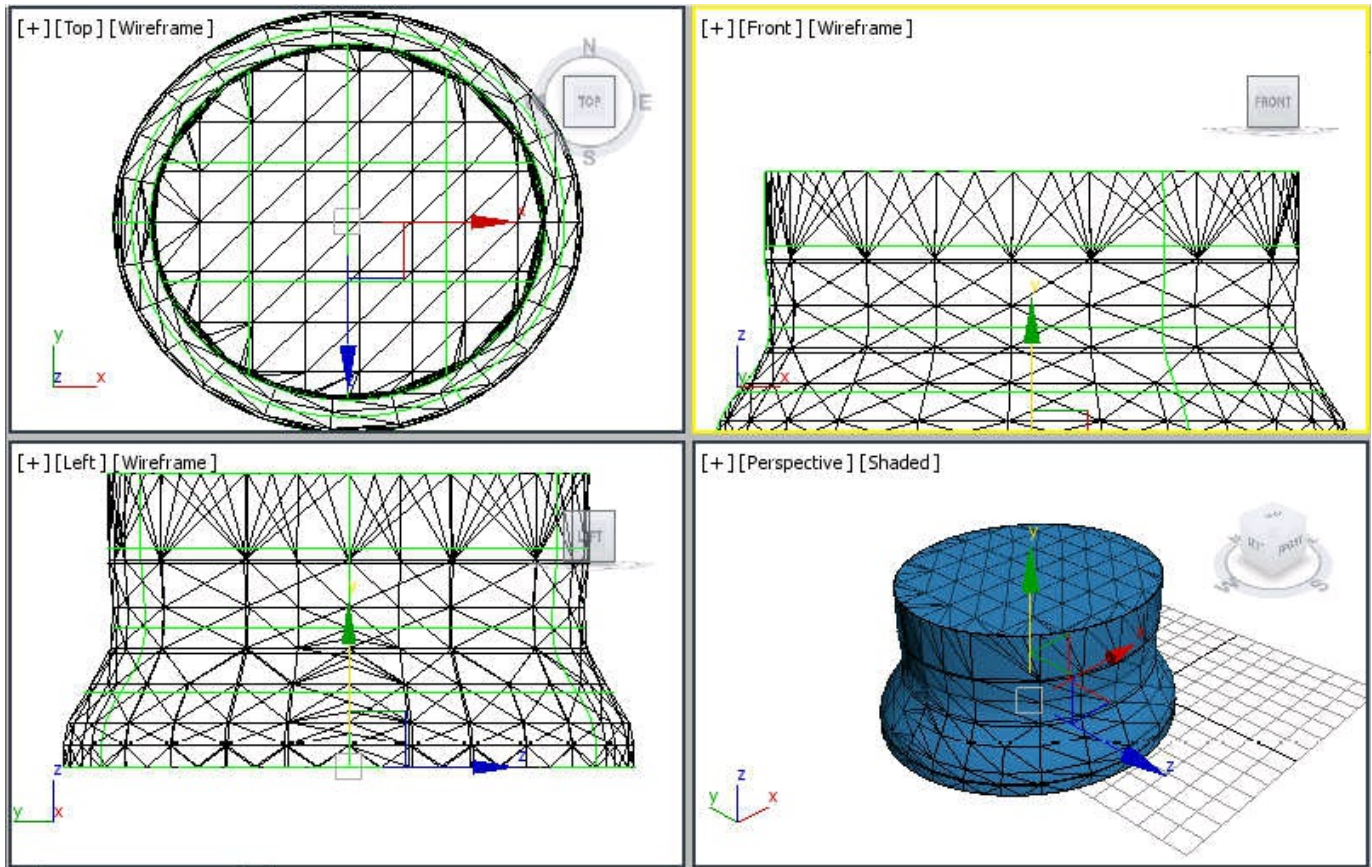
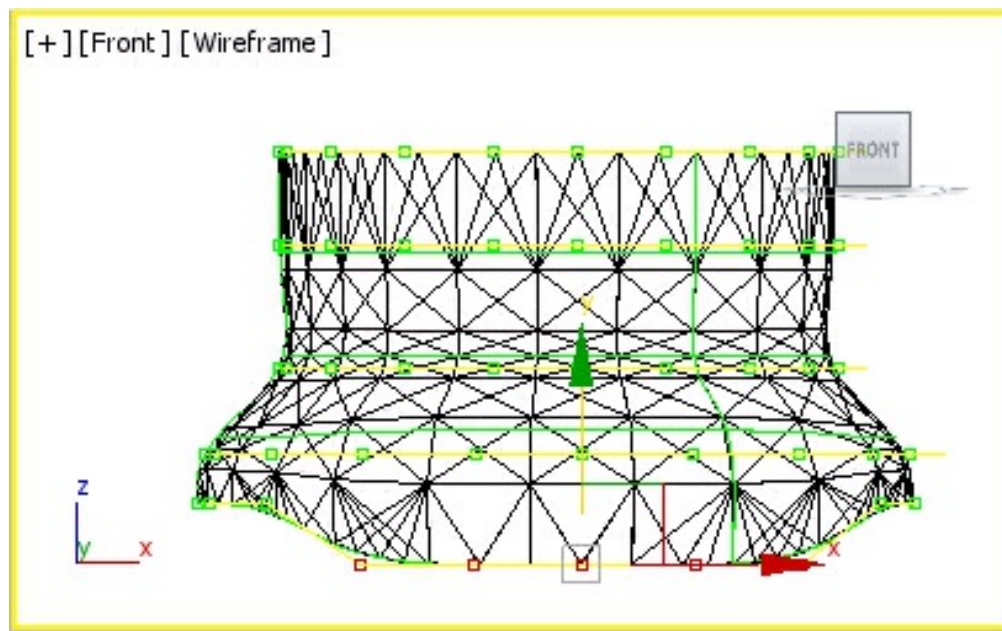

Figure 10-90 The NURBS surface capped at one end
Figure 10-92 *The outer control vertices moved vertically*
4. Now, choose the **Create Cap Surface** button from the **Surfaces** section in the **NURBS** toolbox; the **Cap Surface** rollout is displayed in the Modify panel. Now, move the cursor over *Circle005*, which is placed at the top in the Front viewport, and then click on it. Also, in the **Cap Surface** rollout, select the **Flip Normals** check box. The open surface is now capped at one end, as shown in Figure 10-90. Next, right-click to exit the **Create Cap Surface** command.
9. Select the **Curve CV** sub-object level; all control vertices are displayed in the viewport. Now, select the outer control vertices of the bottom curves, refer to Figure 10-90. Next, move them until the value in the **Y** spinner in the coordinate display becomes about **15**, as shown in Figure 10-92.